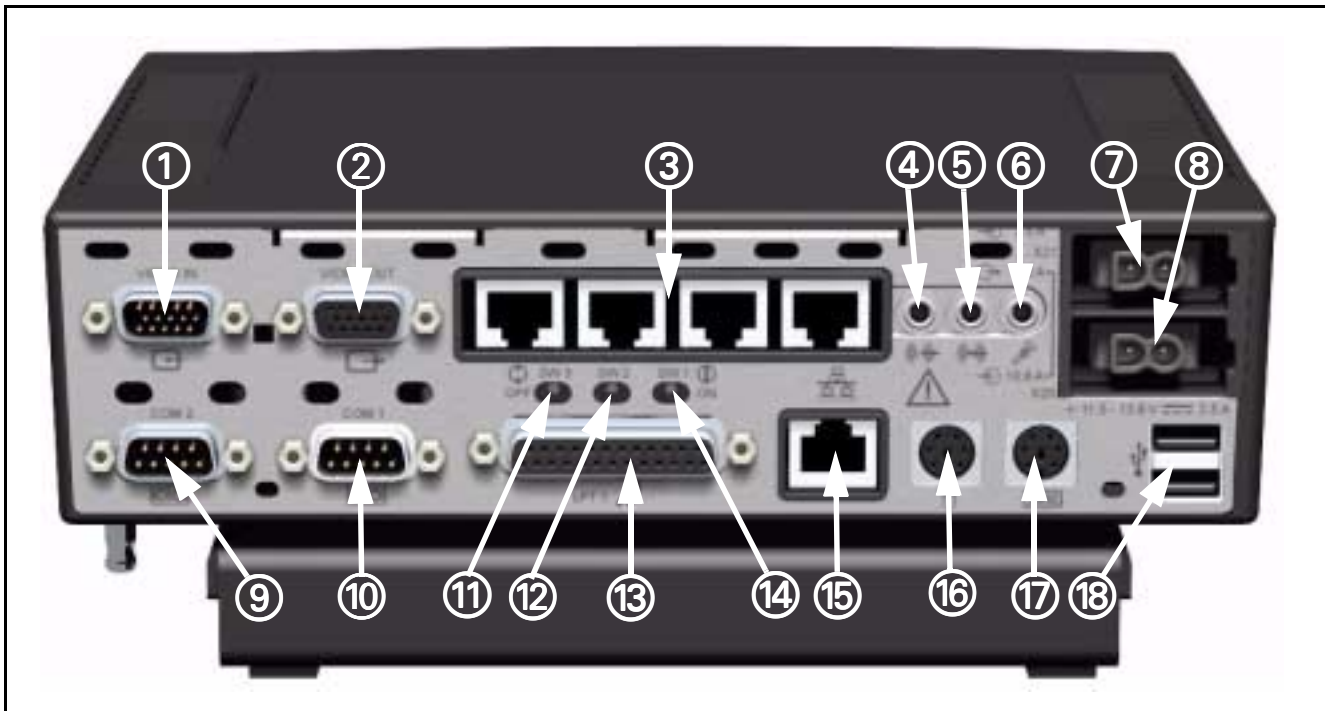
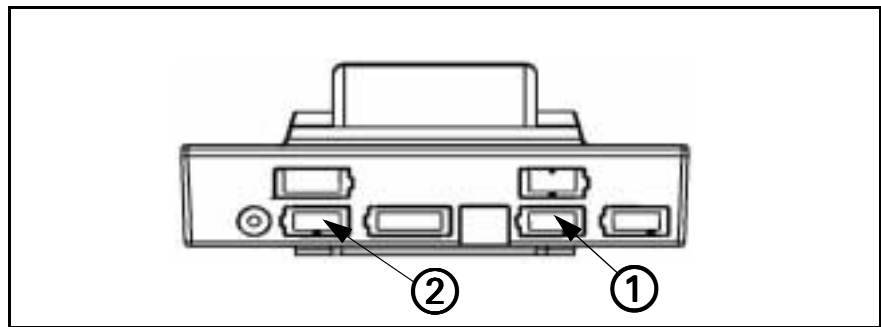
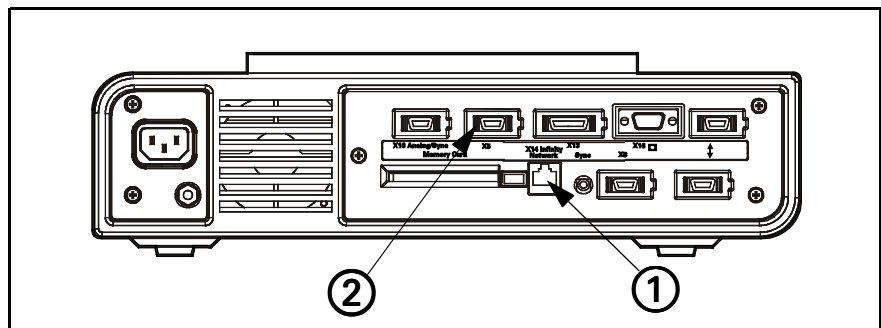
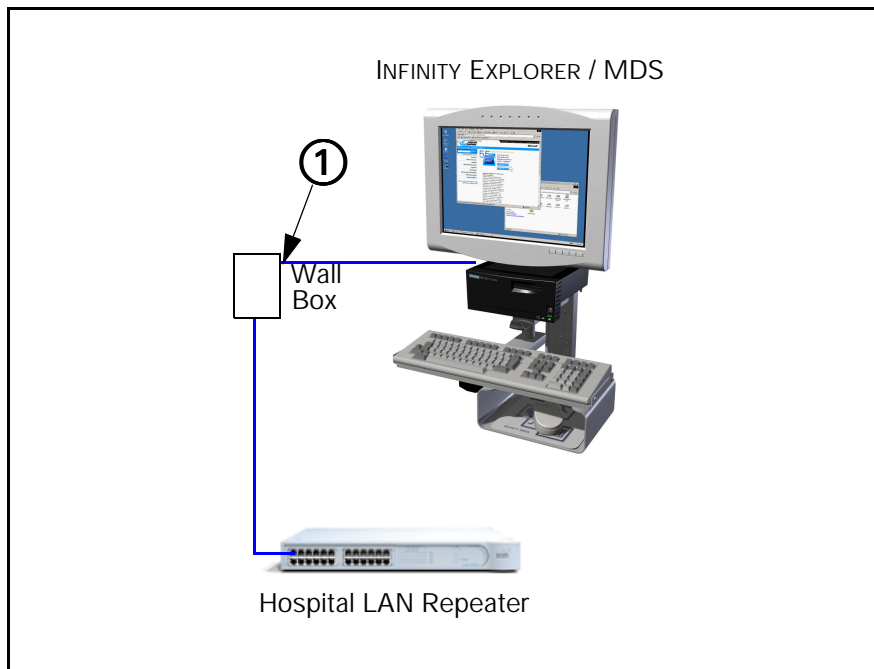

Figure 12-1 MDS (rear view)
Figure 12-2 IDS (rear view)
Figure 12-3 SC 8000 (rear view)
Figure 12-6 Hospital LAN Connection
1. Insert and tighten 15-pin video cable from monitor into video out connector (② in Figure 12-1 on page 18) on rear of MDS.
2. Plug Keyboard cable into keyboard connector (⑰ in Figure 12-1) on rear of MDS.
3. Plug mouse cable into mouse connector (⑱ in Figure 12-1) on rear of MDS.
5. Plug power connector from MDS AC power adapter into Power In connector (⑦ in Figure 12-1) on back of Medside Data Station, and then plug power cord from AC adapter into hospital grade outlet.
- 1.1) Plug one end of ethernet crossover cable (supplied) into one of MDS repeater ports (see ③ in Figure 12-1 on page 18).
- 2.1) Plug one end of shielded Ethernet patch cable into one of MDS repeater ports (③ in Figure 12-1).
- 2.2) Plug other end of shielded Ethernet patch cable into Ethernet port (① in Figure 12-2) on rear of IDS (if SC7000/SC9000XL) or on rear of SC8000 (① in Figure 12-3). Installed Adv. Comm Option II required.
- 1.1) Plug one end of Ethernet crossover cable (supplied) into one of MDS repeater ports, ③ in Figure 12-1.
- 2.1) Plug shielded Ethernet patch cable into Ethernet port (① in Figure 12-2) on rear of IDS (if SC7000/SC9000XL) or on rear of SC 8000 (① in Figure 12-3). Installed Adv. Comm Option II required in SC 8000.
Plug one end of Ethernet Patch Cable into Hospital LAN RJ45 connector (Ⓜ in Figure 12-1 on page 18) on rear of MDS, and then plug other end of cable into Hospital LAN RJ47 Wall Box Connector (① in Figure 12-6)
Plug one end of video cable into X5 on rear of IDS (② in Figure 12-2), and then plug other end of cable into Video In (① in Figure 12-1) on MDS.
Plug one end of video cable into X5 on rear of SC8000 (② in Figure 12-3), and then plug other end of cable into Video In (① in Figure 12-1) on MDS.